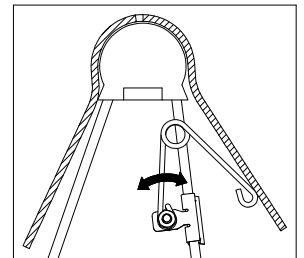

Figure F2: Cutaway view of
2. **Set coupler angle.** Adjust the resting angle of your coupler plate by rotating the spring on the driver side pivot arm. Pulling the top of the spring away from the cab will increase the angle of the coupler plate. Set the angle of the coupler so that it will tilt away from the cab when coupling, see Figure F2. Tighten the 1/4" nut once the spring's orientation is set.